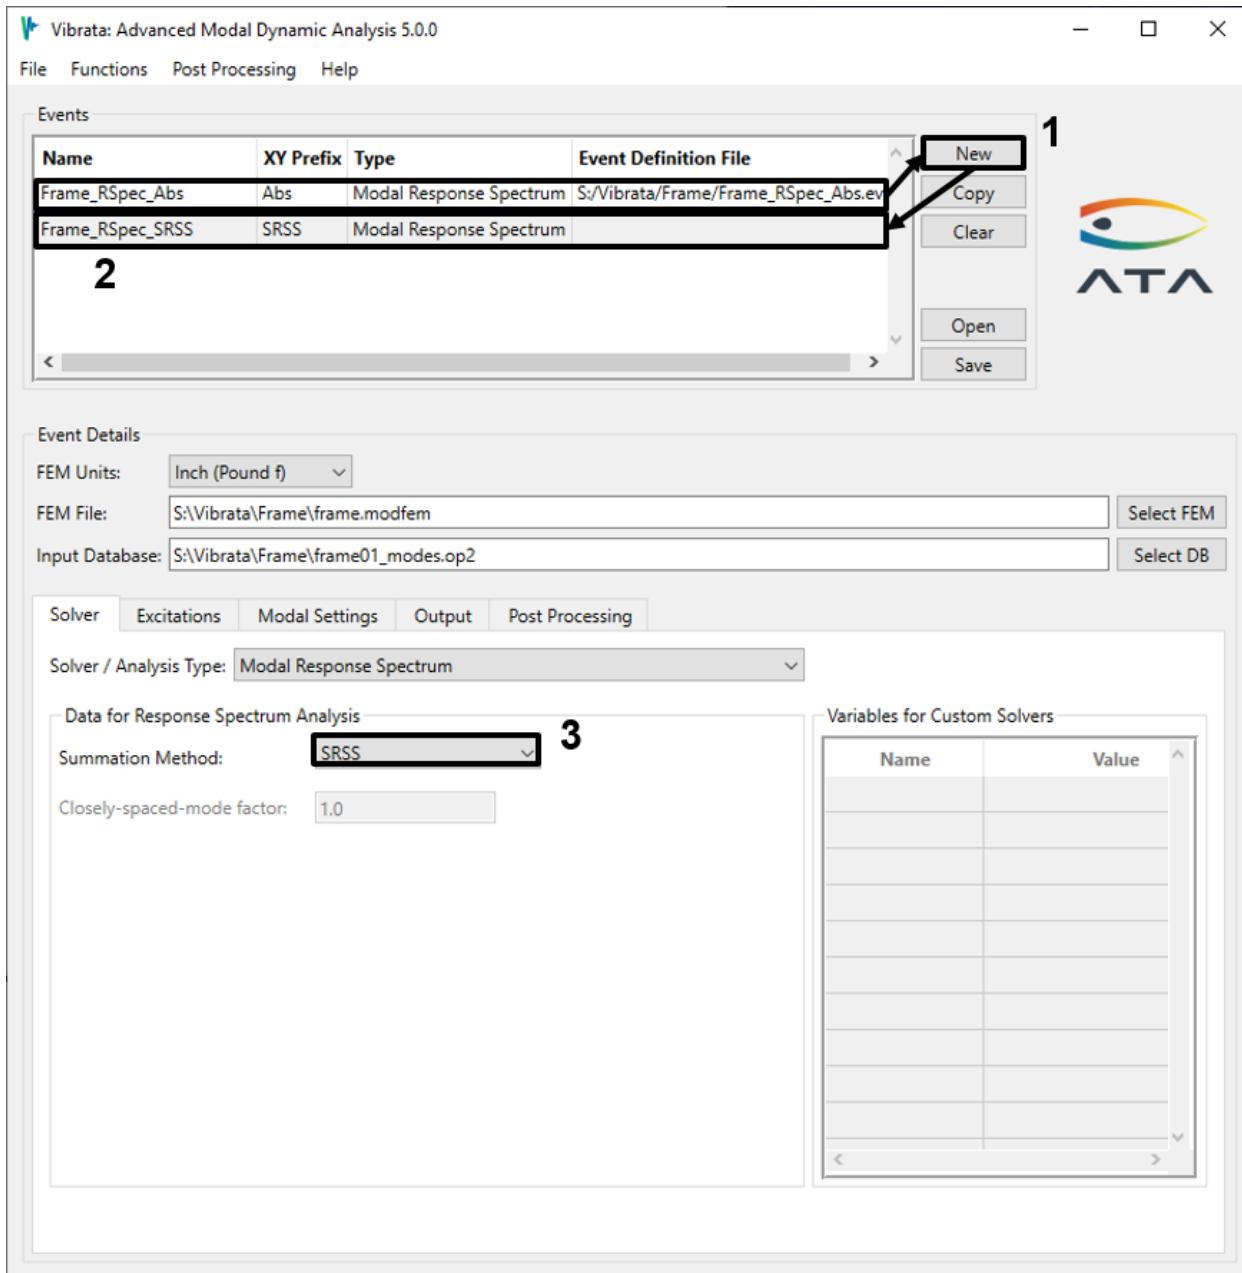

Figure 4-84. Copy the event and change the summation method to *SRSS*.
9. Copy this event. Change the summation method to *SRSS* and change the event name to reflect this (Figure 4-84). Solve the *SRSS* event.